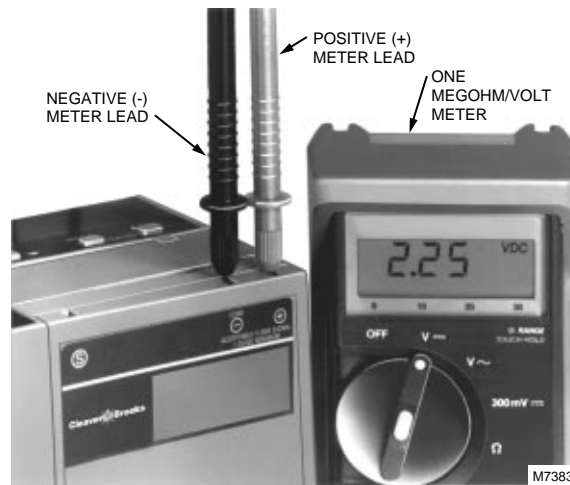

Fig. 22—Flame signal measurement.
Flame Signal Measurement (Table 7 and Fig. 22)
- 3 Insert the positive (red) probe into the + jack of the flame amplifier. Insert the negative (black) probe into the (Com) jack of the flame amplifier, see Fig. 22.